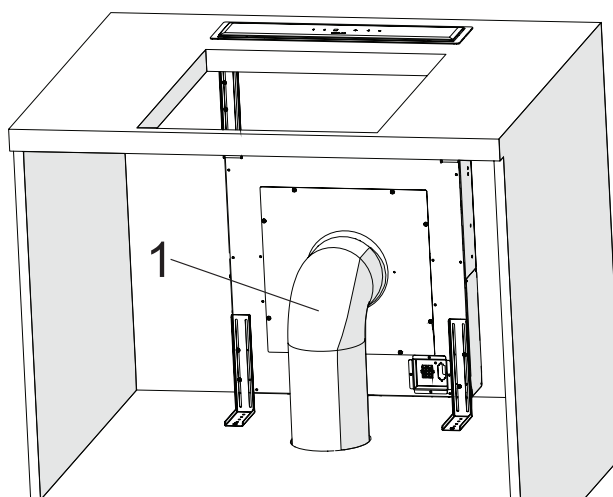

Fig. 22
9. ➔ Make the air outlet pipe connection (Fig. 22).